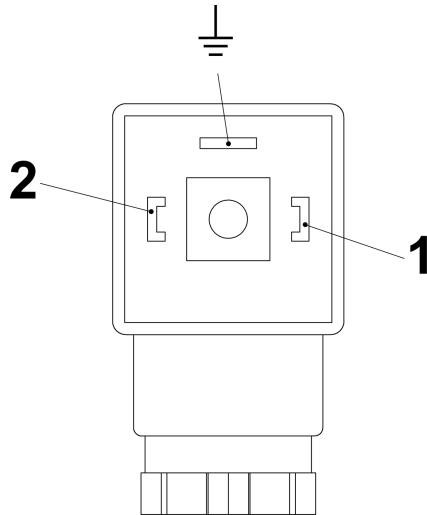
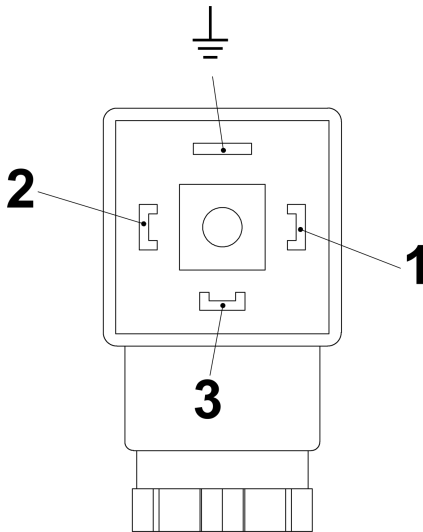

Fig. 26: Pin assignment, plug socket, normally-open contact (SG-30 with connector in compliance with EN175301-803)
Fig. 27: Pin assignment, plug socket, change-over contact (SG-30 with connector in compliance with EN175301-803)
6. ➔ Make the connections as shown in the connecting diagram (Fig. 26 and Fig. 27)